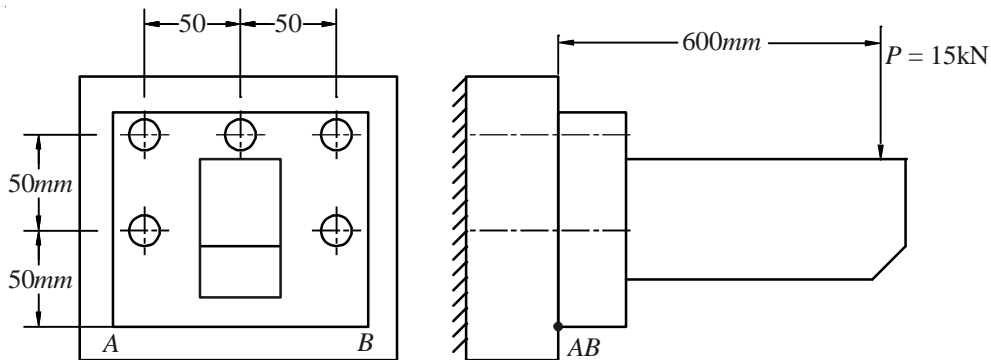

Figure-4.15
- 2) A bracket is fixed to a column by means of five bolts shown in figure-4.15 to carry a load of 15kN. Calculate the same size of the bolts required if the permissible shear stress for bolt material is 60MPa.
from the support as shown in figure-4.15. The outside diameter of flange is 650mm. Determine the standard size of the bolts required by taking the permissible shear stress for the bolt material equal to 80MPa.